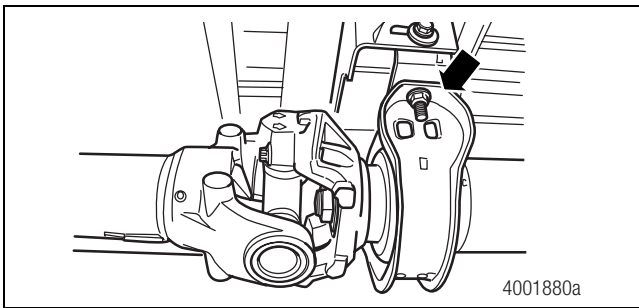

Figure 3.5
1. Inspect all center bearing and end yoke midship nuts for gaps between the mating surfaces. Figure 3.5.